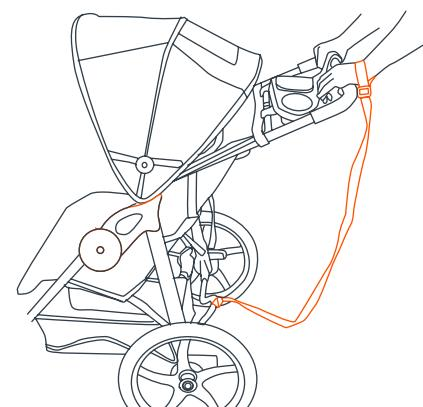

Fig. 16a
- 16) • **SAFETY WRIST STRAP:** Always connect the safety strap to either wrist when jogging. This strap will keep the stroller from rolling away in the event that you trip while running (Fig. 16a).